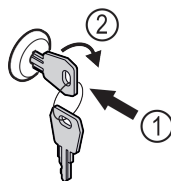

Fig. 165
- Insert the key. Fig. 165 (1)
- Turn the key clockwise by 90°. Fig. 165 (2)